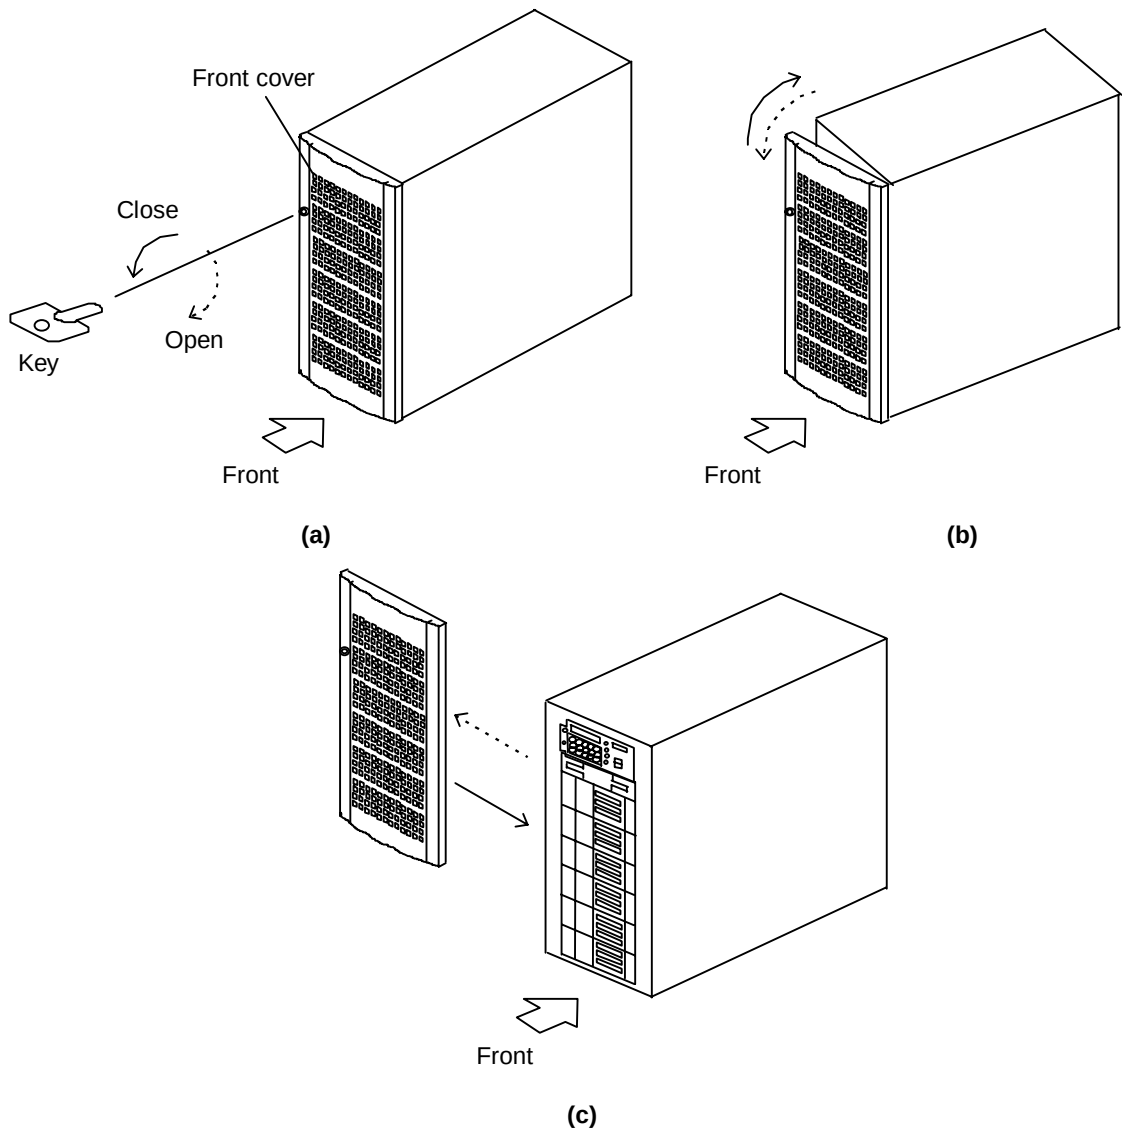

Figure 3.2.1 Removing/Mounting Front Cover
(1) Removing the front cover.
- ① Insert the key attached to the subsystem into the keyhole and turn it clockwise. (See Figure 3.2.1 (a).)
- ② Turn the left of the front cover to your side to open it. (See Figure 3.2.1 (b).)
- ③ Remove the front cover to (···→). (See Figure 3.2.1 (c).)
(2) Attaching the front cover.
- ① Attaching the front cover in the reverse order step (1).